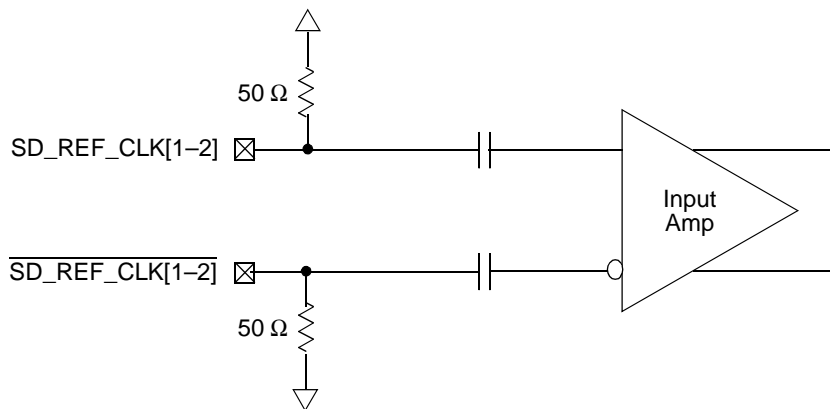

Figure 4. Receiver of SerDes Reference Clocks
The SerDes reference clock inputs are applied to an internal PLL whose output creates the clock used by the corresponding SerDes lanes. The SerDes reference clock inputs are  $SD\_REF\_CLK1/\overline{SD\_REF\_CLK1}$  or  $SD\_REF\_CLK2/\overline{SD\_REF\_CLK2}$ . Figure 4 shows a receiver reference diagram of the SerDes reference clocks.
- The  $SD\_REF\_CLK[1-2]$  and  $\overline{SD\_REF\_CLK[1-2]}$  are internally AC-coupled differential inputs as shown in Figure 4. Each differential clock input ( $SD\_REF\_CLK[1-2]$  or  $\overline{SD\_REF\_CLK[1-2]}$ ) has on-chip 50- $\Omega$  termination to SXCvss followed by on-chip AC-coupling.